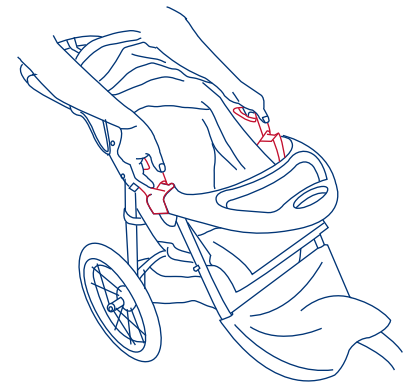
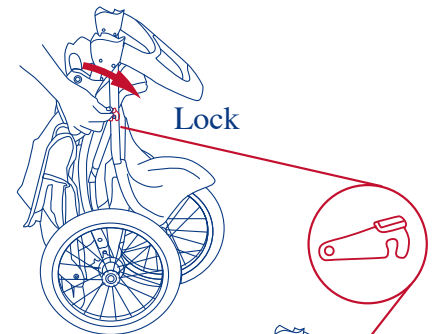

Figure 20.
Figure 21.
- The stroller is folded by simultaneously depressing the safety lock on the right side and fold buttons located on the central joints. Please see figure 20. When the fold latches are released, the handle will begin to fall toward the floor. Release the fold buttons and press downward on the stroller handle until the stroller is completely folded. Secure the stroller in the folded position by hooking the fold latch, located on the right side of the stroller, over the rivet that protrudes from the frame. See figure 21.